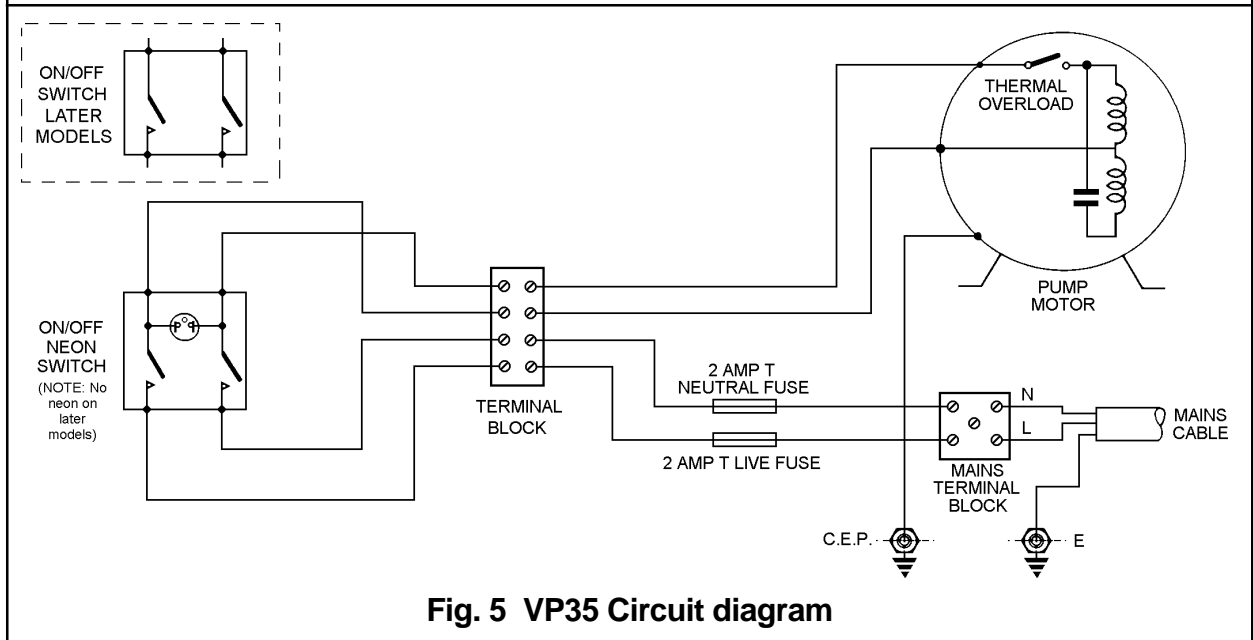

Fig. 5 VP35 Circuit diagram
5.9 The following table lists faults, possible causes and remedies that can be rectified during maintenance procedures. Other faults and possible causes, with remedies that can be undertaken by the user, are dealt with in the suction units 'Instructions for Use'. Electrical faults should be traced and rectified in conjunction with circuit diagram (Fig.5). For any causes not listed and which cannot be resolved, please contact the Eschmann After Sales Service Department.